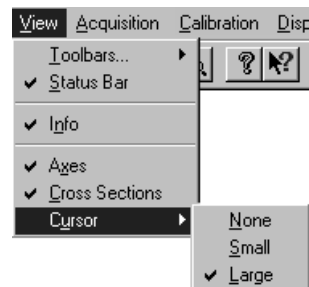

Figure 104. Selecting the large cursor
4. Click on the  (Autoscale) button at the bottom of the image window. Then select the large cursor by clicking on Cursor on the View menu and then on Large as shown in Figure 104.